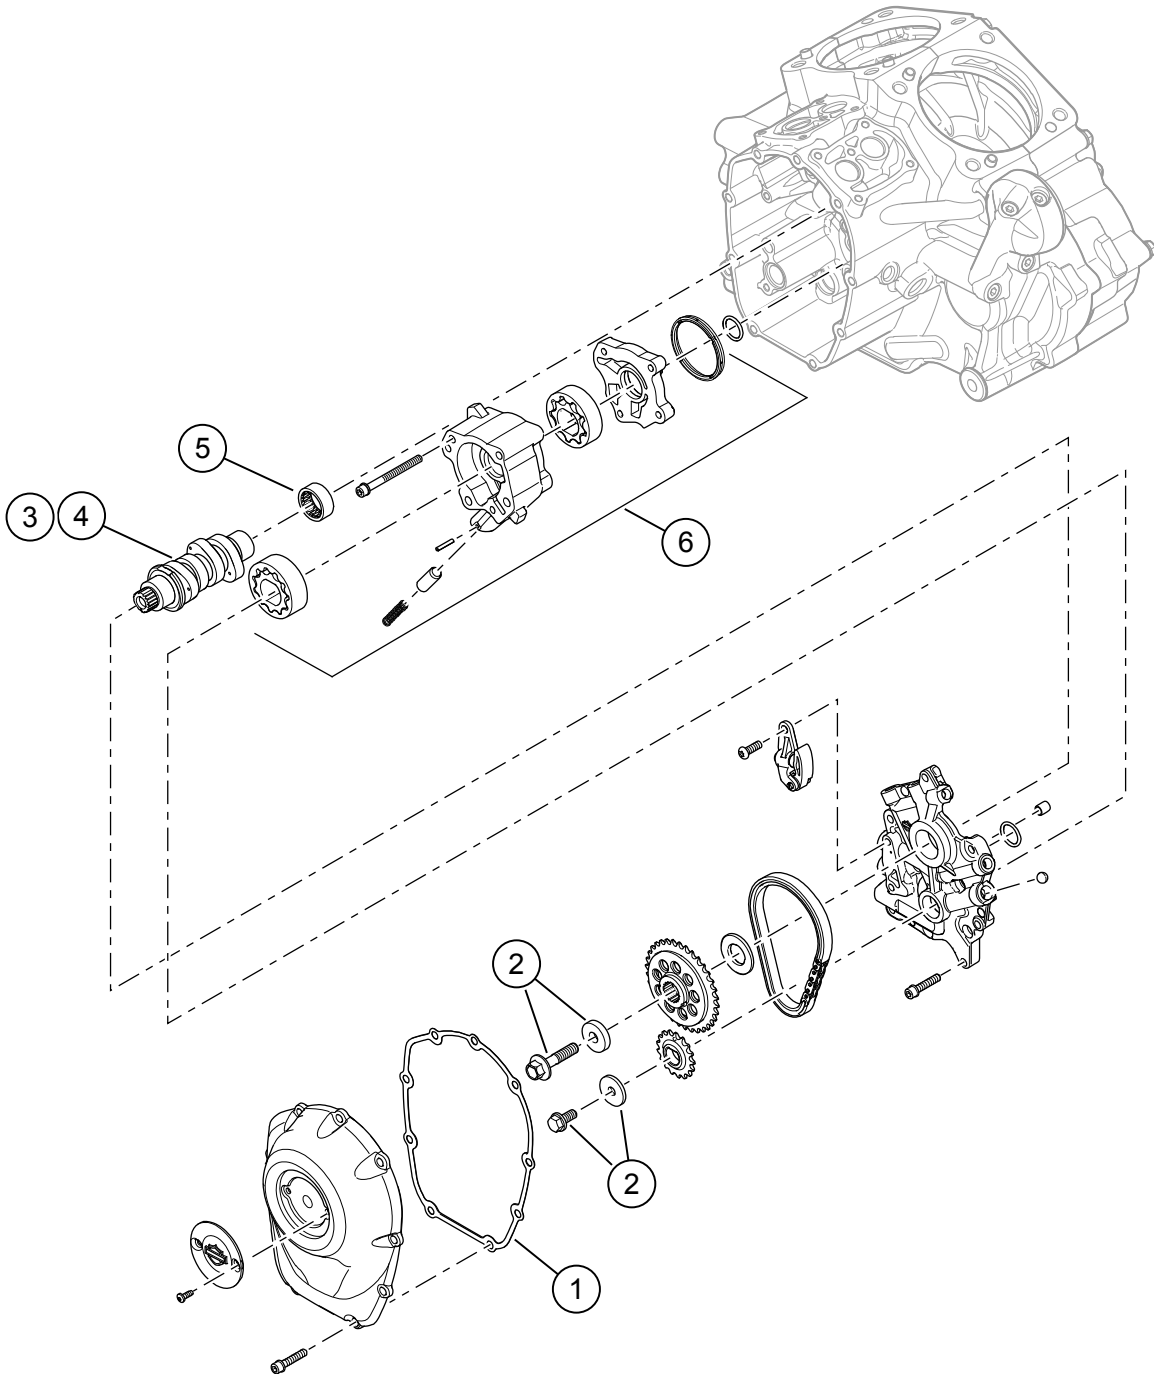

Figure 4. Service Parts: Screamin' Eagle Milwaukee-eight Stage 2 Kit
1. Figure 4 Install oil pump. See service manual.